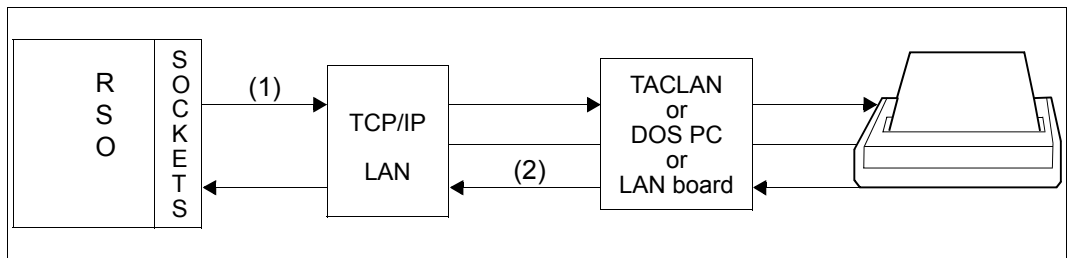

Figure 16: Dialog between RSO and printers connected to a TCP/IP LAN
In order to poll the printer status and check for malfunctions, RSO can request the printer (path (1) in figure 16) to return printer status messages (path (2) in figure 16). The prerequisites for this dialog are as follows:
Sending data transparently (path (1) in figure 16) requires SYNCHRONIZATION=\*NETWORK in the device definition. Receiving printer messages transparently (path (2) in figure 16) requires POLLING=\*NO in the device configuration.